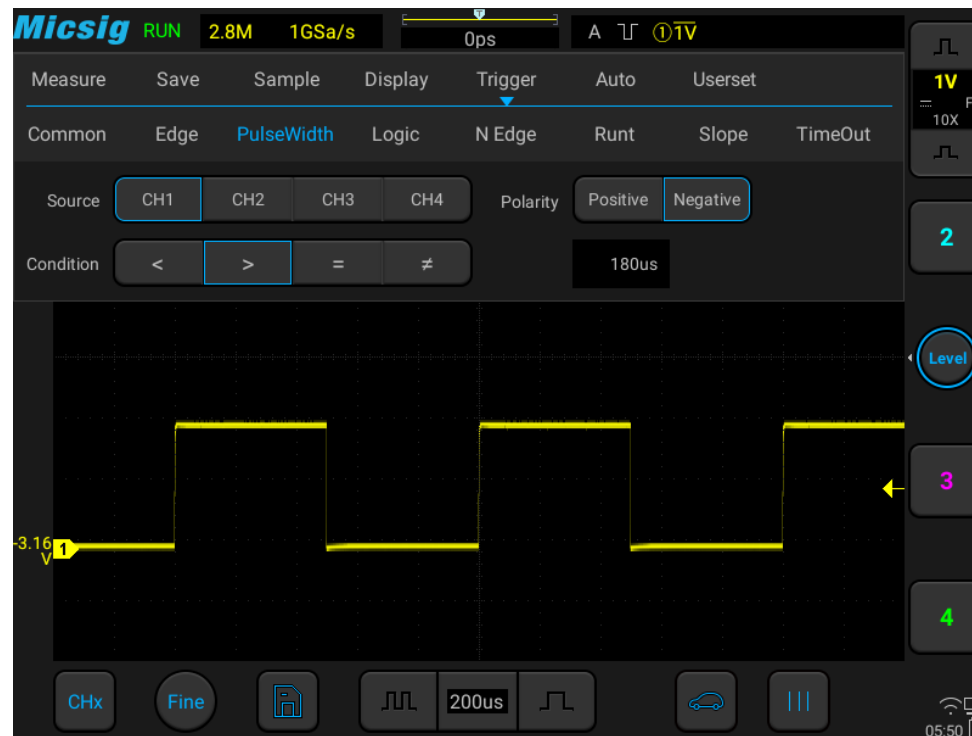

Figure 7-15 Negative Polarity Pulse Level Flip
lower than current trigger level (CH1 negative pulse indication icon  $\square \sqcup$  ① 1.00V). When triggered on positive polarity pulse, if the restrictions are true, the trigger will happen on the high-to-low transition of the pulse; when triggered on negative polarity pulse, if the restrictions are true, the trigger will happen on the low-to-high transition. (Figure 7-15 Negative Pulse Level Flip)